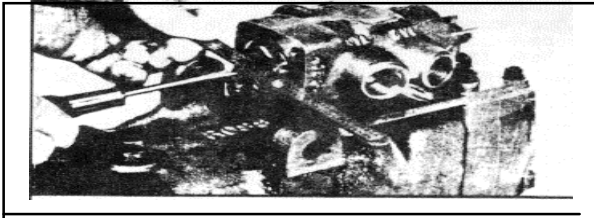

Fig. 2
- (a) Remove cover (12) and seal (11) from lever end of valve.
- (b) Remove, from other end of valve, water seal cover (1), rubber water seal (2), cover (3), and "O" Ring (4).
- (c) Remove cotter pin (8), then loosen slotted nut (9) on clevis rod (10).
- (d) Using screw driver in slot on valve spool, thread spool in or out until the slotted end of spool is flush with the end of valve body (52), refer to Fig. 2.